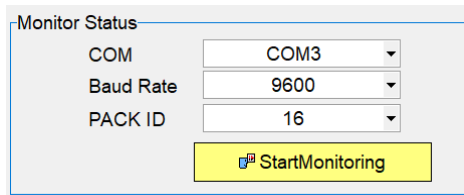

Figure 22: BMS_Tools Monitor Status
- Under 'Monitor Status', make sure that the correct 'COM' setting is selected, 'Baud Rate' is set to 9600, and 'PACK ID' is set to 16 as shown in Figure 22 below.